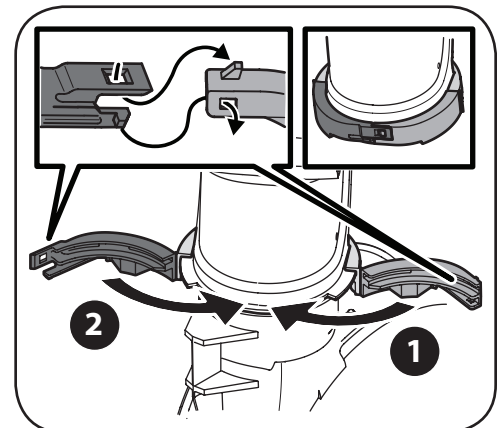

Figure 3-7
7. Secure the chute band to itself by first aligning the two snap-fit features and pushing the two ends (1 & 2) together as shown. Be sure both tabs on the two ends engage each other, as shown in the top left inset of Figure 3-7. When properly assembled, the chute band will appear as in the top right inset of Figure 3-7.
IMPORTANT! If you need to remove the chute for any reason, a screw driver must be used to release the locking tabs shown above in the left inset of Figure 3-7.